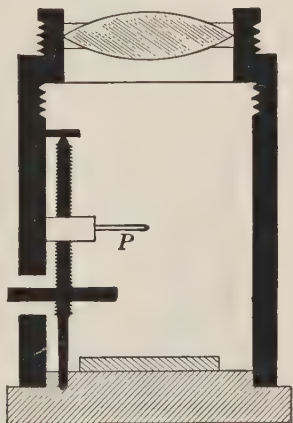

FIGURE 721. — SPINTHAROSCOPE, SECTIONAL.
**496. Energy in Radioactivity.** — From what we have seen, we might expect that radioactive substances would constantly give off energy, and this proves to be the case. If a bit of radium is placed beside the bulb of a thermometer, it is found that the thermometer reading shows a little higher temperature than that of the surrounding atmosphere. The energy emitted by radium placed in ice would melt in less than an hour a weight of ice equal to that of the radium. Sir William Crookes invented the *spintharoscope*, to make visible the process of radioactivity. At one end of a small metal tube (Figure 721) is placed a screen covered with zinc sulphide. A short distance above this a minute particle of a radium com-